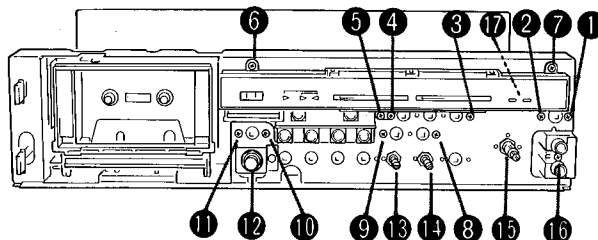

Fig. 4
2. Disconnect connector from LED level display assembly and remove the screws ① and ② in Fig. 4 and then remove the meter amp. P.C. board.
2. Remove the screw 17 in Fig. 4 (rear of plate assembly) and then remove dolby NR indicator P.C. board.
3. Remove the screws 3 and 4 in Fig. 4 and then remove the dolby NR switch P.C. board.
5. Remove the screws 5 to 7 in Fig. 4 and then remove the plate assembly.
5. Remove the screws 8 to 11 in Fig. 4 and then remove the logic control P.C. board.
4. Remove the hexagonal nuts 12 to 15 and the screw 16 in Fig. 4.